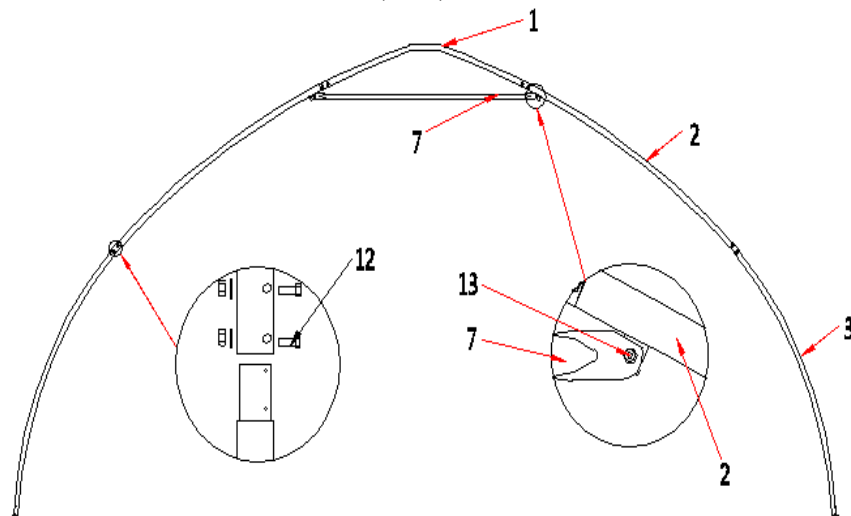

Figure 2
- The shelter includes 8 trusses, connect all tubes with bolt (#12) (Figure 2).